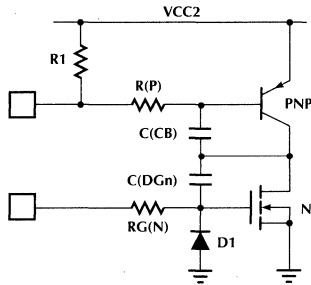

Figure 14. Causes of Cross-conduction.
Since the output section in a full bridge application consists of three half-H switches, cross-conduction can occur. Cross-conduction is the condition where an N-FET and PNP in the same phase of the bridge conduct simultaneously. This could happen under two conditions (see figure 14):
In Condition 2 above, the PNP is pulled up inside the ML4410 with a 50KΩ resistor. If the current through C(CB) is greater than $0.7V \div 50K$ when the N-FET turns on, the PNP could turn on simultaneously, causing cross-conduction. Adding R1 as shown in figure 14 eliminates this. The size of R1 will depend on the fall time of the phase voltage, and the size of the C(CB).
In higher power applications, when large MOSFETs are used, the N-Output can be pulled below GND, causing the internal substrate diode (Dint) to conduct. The negative substrate current should be limited to less than 2mA, which can be done by adding D1 as shown in figure 14. D1 prevents the gate from going below 0.7V, limiting the substrate current to: